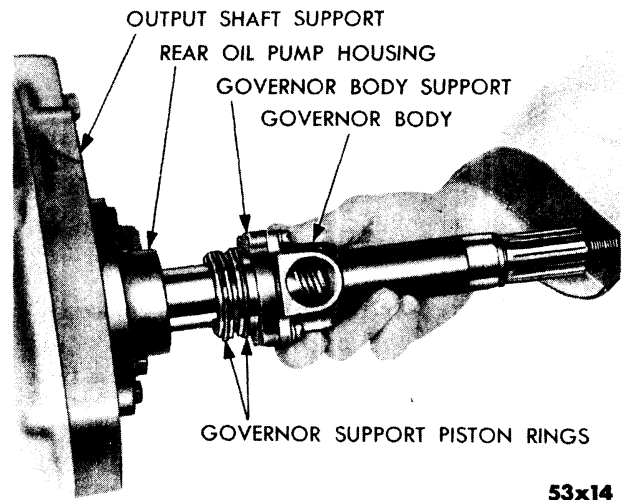

Fig. 62—Removal and Installation of Governor Body and Support Assembly
- (6) Remove governor secondary weight and spring (also remove intermediate weight if three-stage governor is used). All components should be thoroughly cleaned of any foreign matter. Use compressed air to dry parts—never a cloth or like material which may leave lint. Inspect all parts for burrs and wear. Check secondary weight for free movement (intermediate weight on three-stage governor) in primary weight by placing secondary weight (or intermediate weight) in primary weight without the spring. Secondary (or intermediate) weight should fall freely when both parts are clean and dry. Inspect governor weight spring for distortion.
- (7) Remove governor locating screw from the governor body and output shaft.
- (8) Slide governor body and support from output shaft. (Fig. 62.)
- (9) Remove the two governor support piston rings and inspect.
- (10) Remove the four governor body-to-support screws and lockwashers. Separate body from support and inspect.